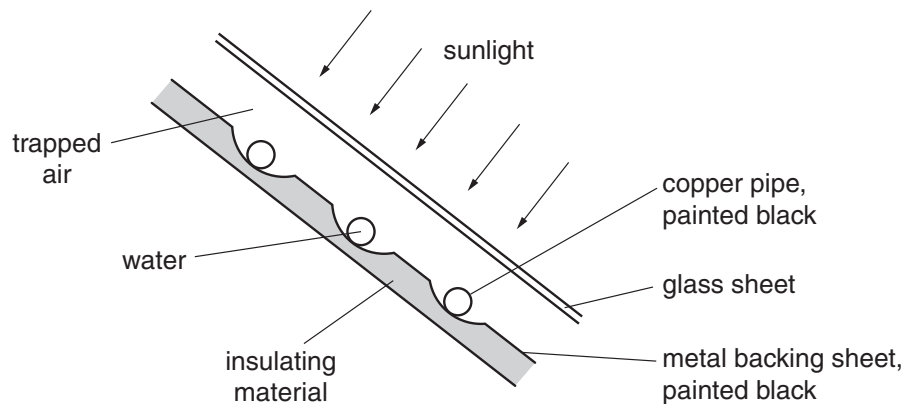

Fig. 4.1
- 4 A solar panel is mounted on the roof of a house. Fig. 4.1 shows a section through part of the solar panel.